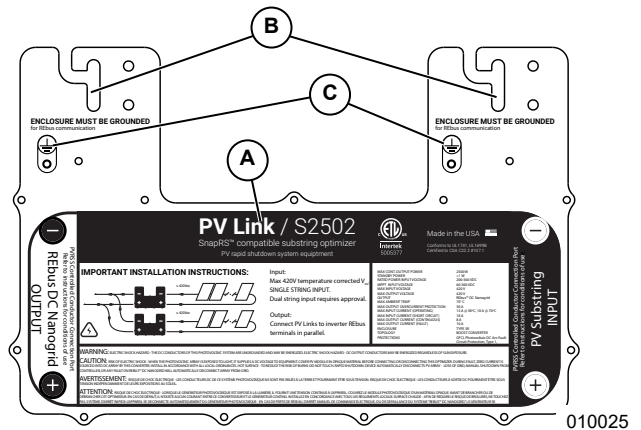

Figure 5-1. Grounding Terminal Location
See Figure 5-1. Install the PV Link with label (A) facing up. Attachment flange slots (B) accept fasteners up to M8 or 5/16" in diameter.
- See Figure 5-1. Fasten to grounding terminal (C) the equipment grounding conductor using a lug (such as, 6-14 AWG Copper Set Screw Lug, McMaster P/N: 6923K31) or equivalent.
- See Figure 5-1. Use two rail-compatible fasteners (D) to secure the PV Link to the grounded rail.
- Use a WEEB clip (Wiley P/N: 30020098) or equivalent grounding washer (E) between the rail and attachment flange to penetrate the rail's anodized coating.